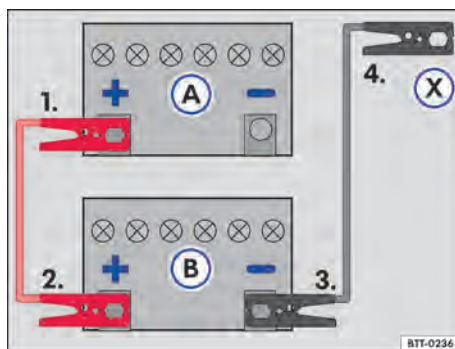

Fig. 184 Jump lead attachment diagram: discharged vehicle battery (A) and battery in the vehicle providing assistance (B).
Key for → Fig. 184:
- Connect one end of the *red* jump lead to the positive terminal → Fig. 184 Ⓐ of the vehicle with the discharged battery Ⓐ → ⚠.